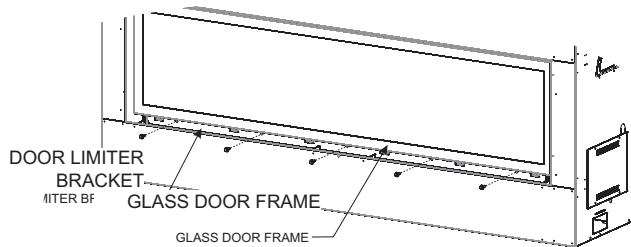

Figure 26
Before the Glass Door can be removed, a Door Limiter Bracket must be removed. Using a 5/16-inch hex nut driver, remove (5) #10-24 x 3/8-inch screws that retain the Limiter Bracket to the bottom flange of the Glass Door frame, and set the bracket aside. See Figures 26 and 27.